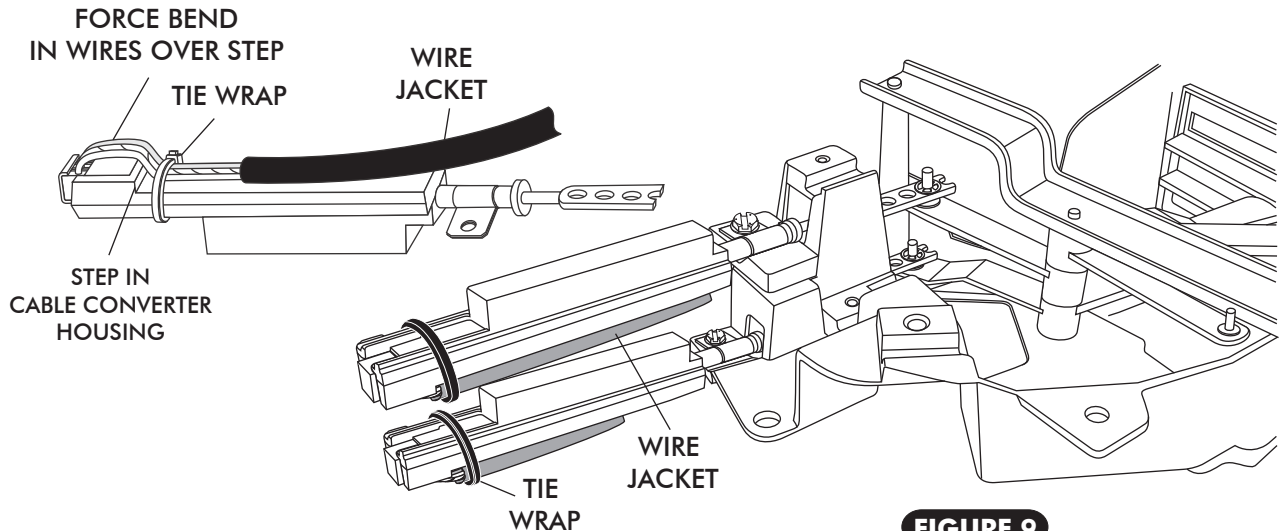

FIGURE 9
- ONCE WIRES ARE CORRECTLY PLUGGED INTO CABLE CONVERTER ASSEMBLY, SECURE WIRES TO THE CABLE CONVERTER ASSEMBLY USING TIE WRAPS (SUPPLIED). SEE FIGURE 9 BELOW. THE TIE WRAP MUST BE LOCATED BETWEEN THE END OF THE WIRE JACKET AND THE STEP IN THE CABLE CONVERTER HOUSING FORCING A BEND IN EACH WIRE AS THEY PASS OVER THE STEP IN CABLE CONVERTER HOUSING. HEAD OF TIR WRAP MUST FALL ON EDGE OF HOUSING AS SHOWN TO REMAIN TIGHT. ENSURE THAT THE TIE WRAPS ARE SNUG ENOUGH THAT THE WIRES CANNOT MOVE. SEE BELOW